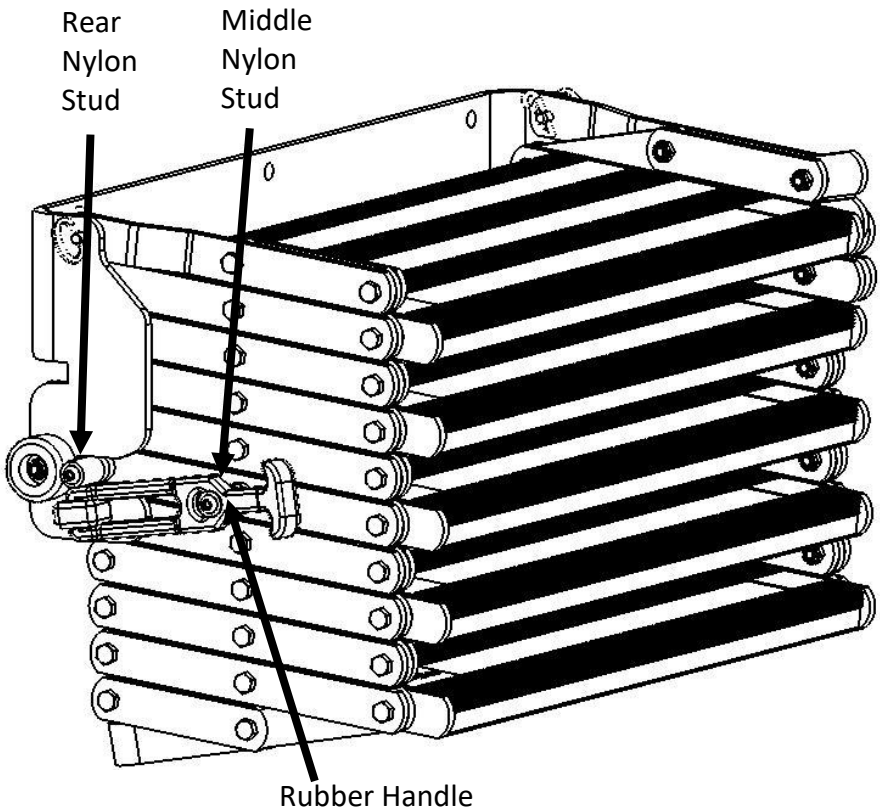

Figure A.1
- Rotate the steps down until the rear nylon studs on either side of the GlowSteps rest against the rubber bumpers on the mounting bracket. See *Figure A.1*.
- Pull the Rubber Handle out and over the middle nylon stud as shown in *Figure A.1*.